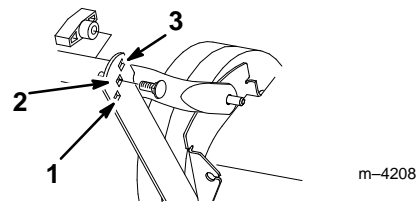

Figure 11
The handle has three height positions (Fig. 11). Select a handle height position that is most comfortable for you.
1. Remove the handle bolts and knobs from the lower handle and the support brackets (Fig. 11).
2. Secure the handle to the support bracket with two handle bolt installed from the outside and two knobs, using the height adjustment holes on the brackets that best suit your height requirements (Fig. 11)